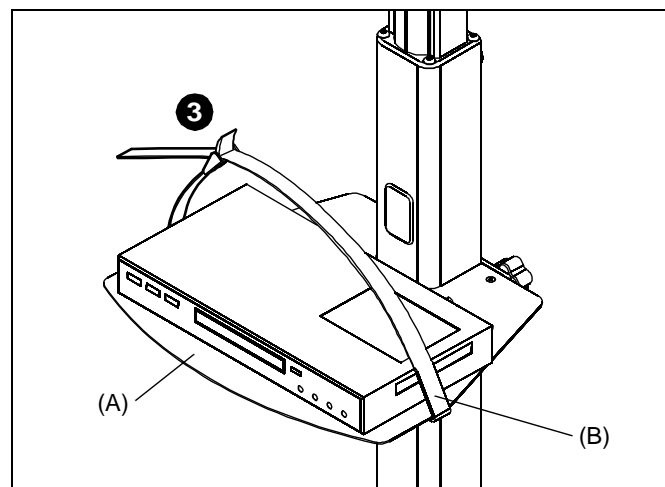

Figure 8
3. Loop strap (B) over top of equipment and slide strap end into clasp. (See Figure 8)